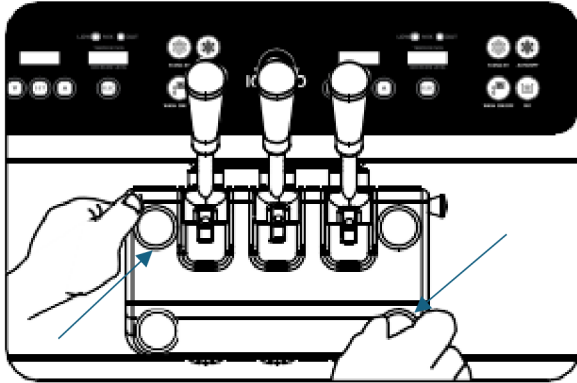

Figure 5-9
3. Lay feed tube into the hopper. (Figure 5-9.)